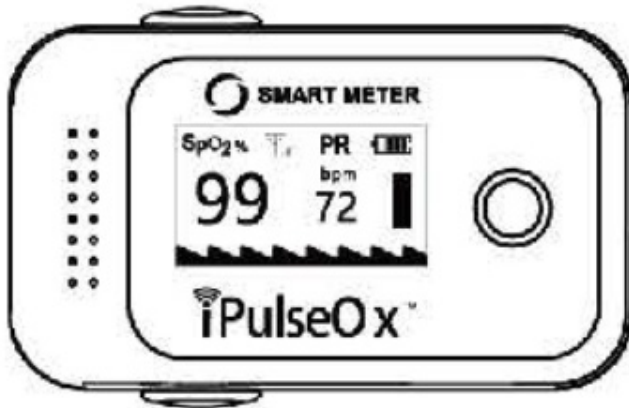

Figure 7
- Once the data has been displayed on the screen, the cellular data transfer will begin automatically. Uploading will appear on the screen (as shown in Figure 7).